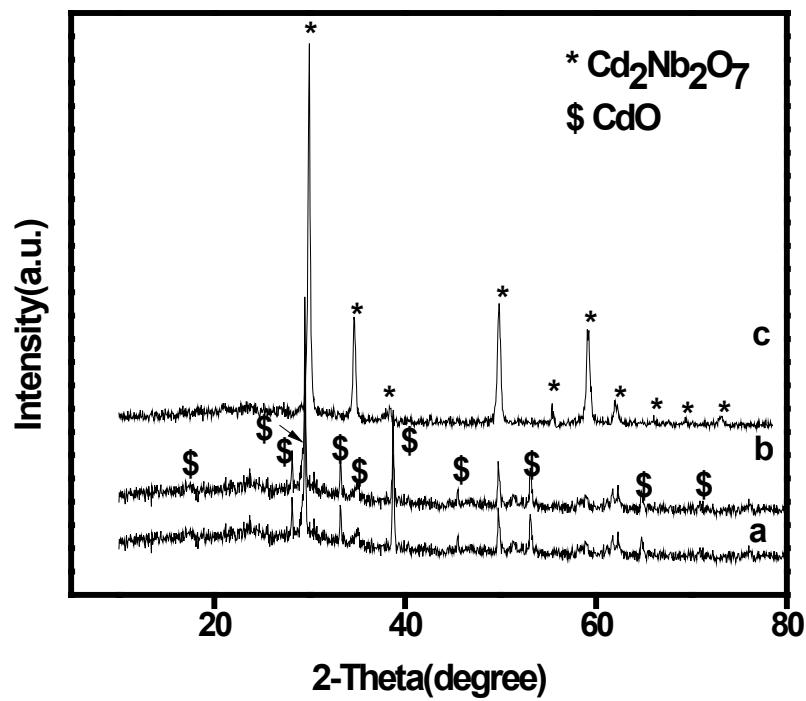

Figure S3
**Figure S3:** XRD patterns of cadmium niobate treated hydrothermally at 180°C for 48h and calcined at 600°C for 8h with different NaOH concentration (a) 0.1M (b) 0.3M and (c) 0.5M